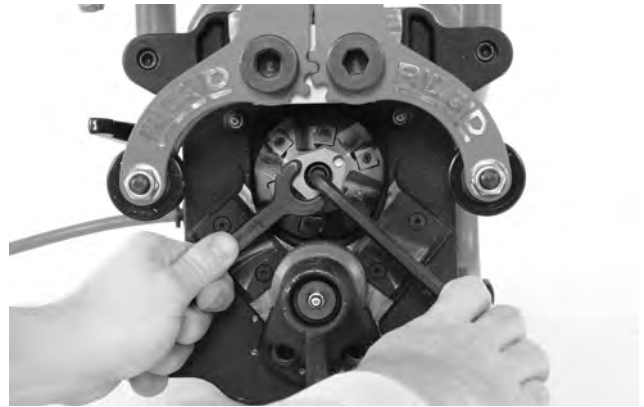

Figure 25A – Changing Cutter Heads
- Using a $\frac{5}{16}$ " hex wrench, remove the socket head cap screw that holds the Cutter Head in place (*Figure 25A*).